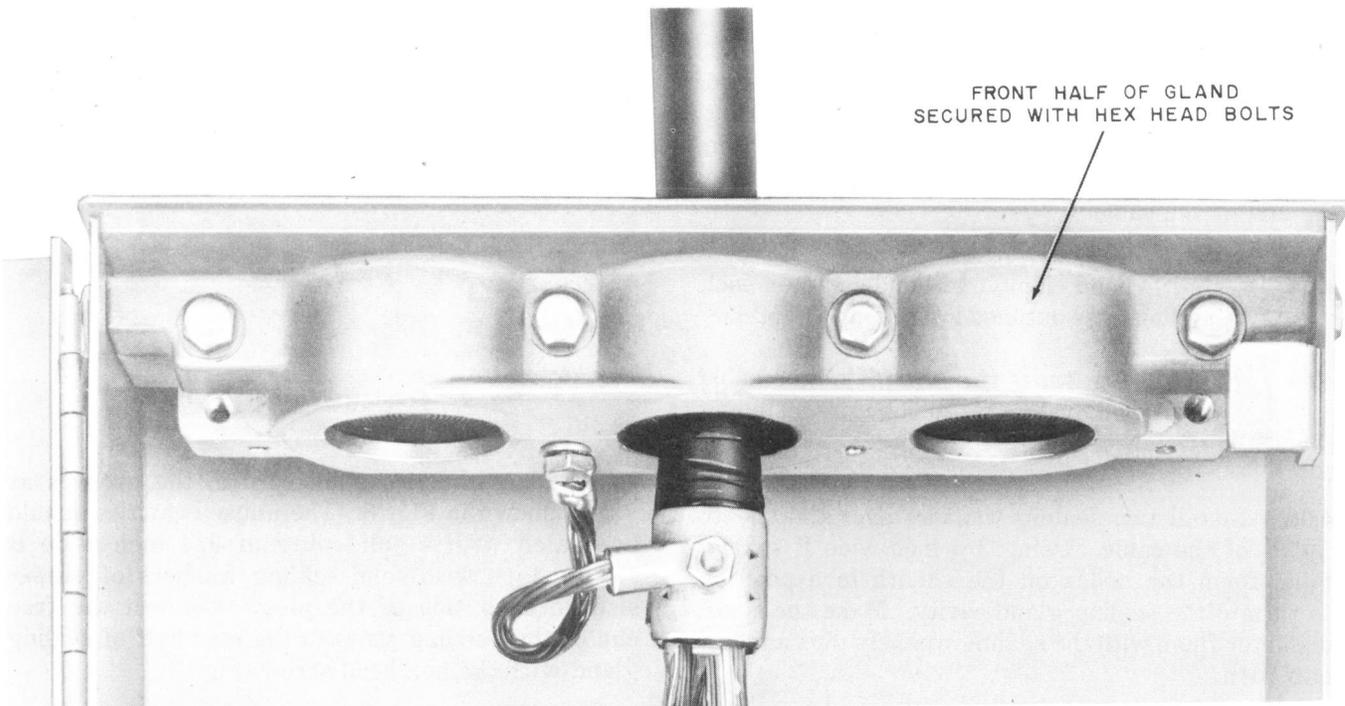

Fig. 9—Cable Secured in Gland
4.09 Position the front half of the sealing gland over the prepared cable then secure with the hex head bolts as shown in Fig. 9. Torque